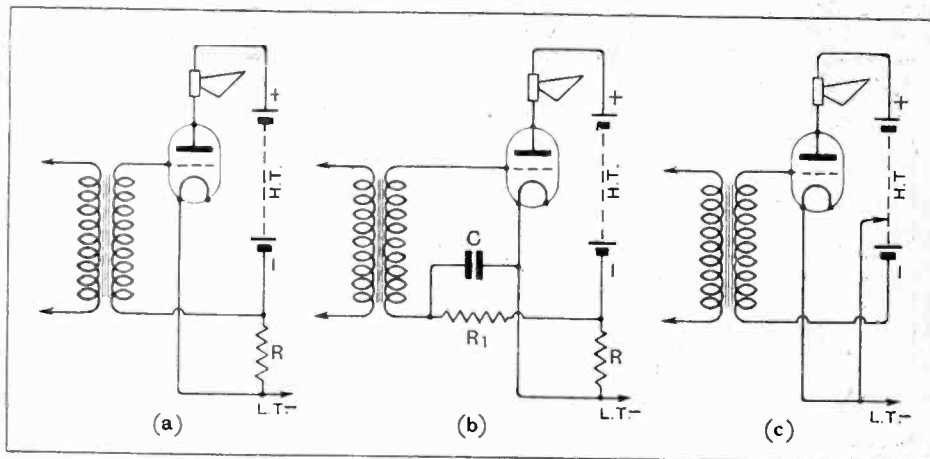

Fig. 2.—Illustrating methods of using a high-tension battery as a source of grid bias voltage.
return lead is joined to H.T. negative. This method, in its simplest form, is illustrated in Fig. 2 (a), where the bias resistance is marked R.
Due to the fact that this resistance is common to the anode circuits of all valves in the receiver, it is probable that it will cause harmful interstage couplings, and so this simple circuit is hardly practicable. As a rule it will be necessary to add a decoupling resistance (R_1) of about 100,000 ohms, and a by-pass condenser (C) of about 2 mfd., as shown in Fig. 2 (b).
The need for using a bias resistance and decoupling devices is entirely obviated by the still simpler arrangement shown in Fig. 2 (c). The required number of cells at the negative end of the battery can be
A suitable value for the bias resistance shown in Fig. 2 (a and b) can easily be determined in the manner often explained in these pages.